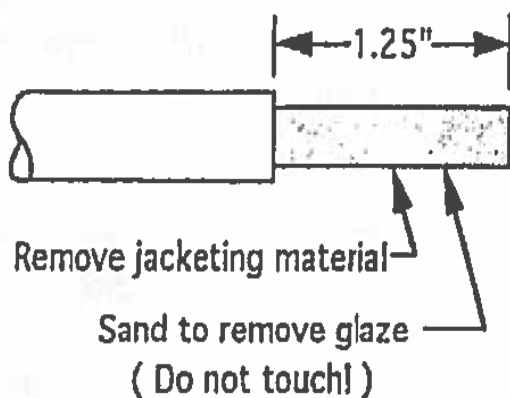

Figure 2: Duct rod repair, jacket removal
- C.** Roughen rod core surface by sanding until glaze is removed, then tap excess dust off as shown in Figure 2.